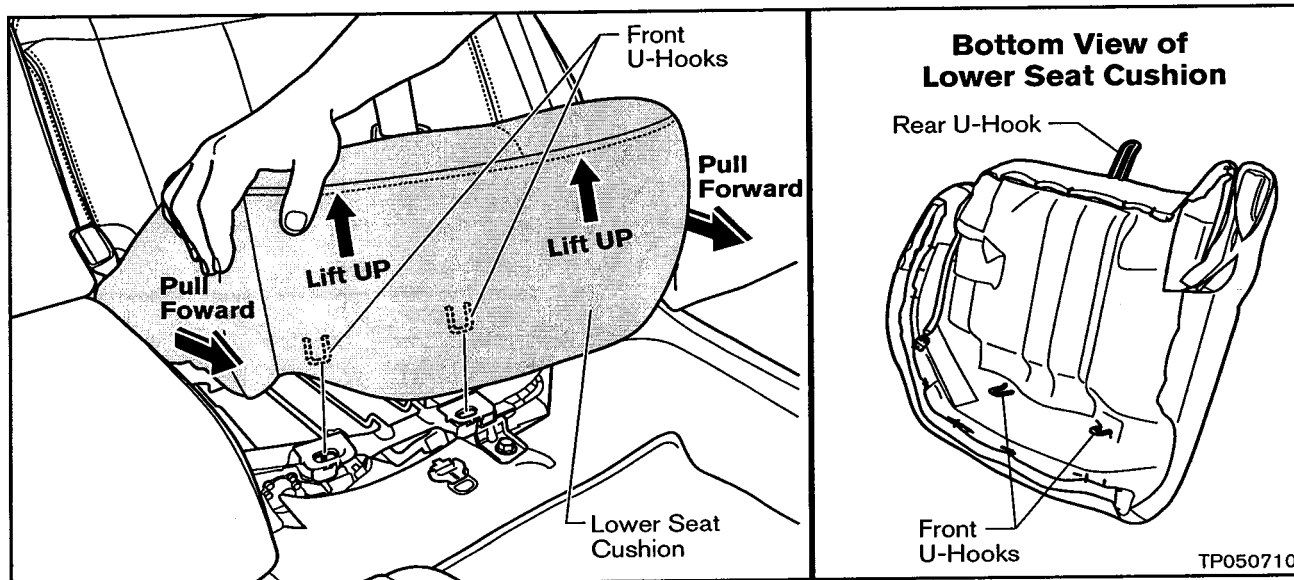

Figure 3
- c. Lift the front edge of the Lower Seat Cushion UP to release the two front U-Hooks from the Seat Frame Grommets (see Figure 3). Then, pull the Seat Cushion FORWARD to release the rear U-Hook (see Figure 3).